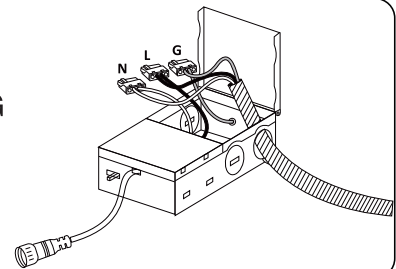

Fig. 2
2. Open the J-Box cover and remove the appropriate knockout(s) on the side panel. Install the appropriate cable clamp(s) (not included) and insert the electrical supply cable through the cable clamp. Connect the supply wires to the fixture wires by using 3 connectors. Attach white to white, black to black, copper to the ground wire, see Fig. 2